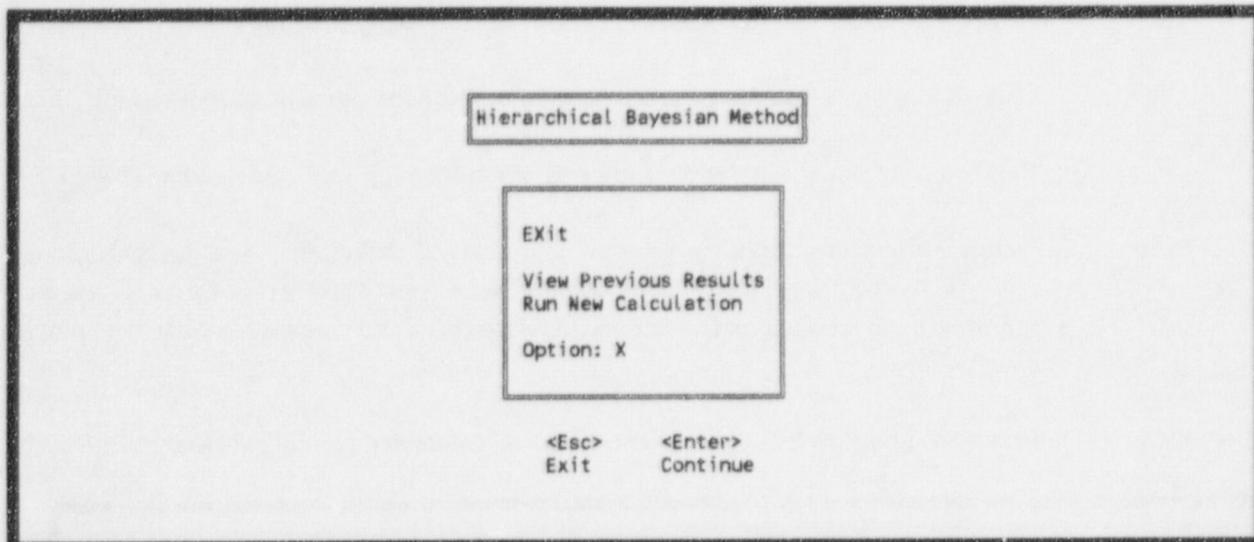

Figure 53. Specific—Hierarchical Bayesian Method menu.
**4.2.1.2.2 Hierarchical Bayesian Method**—The results of Hierarchical Bayesian menu is displayed in Figure 53.